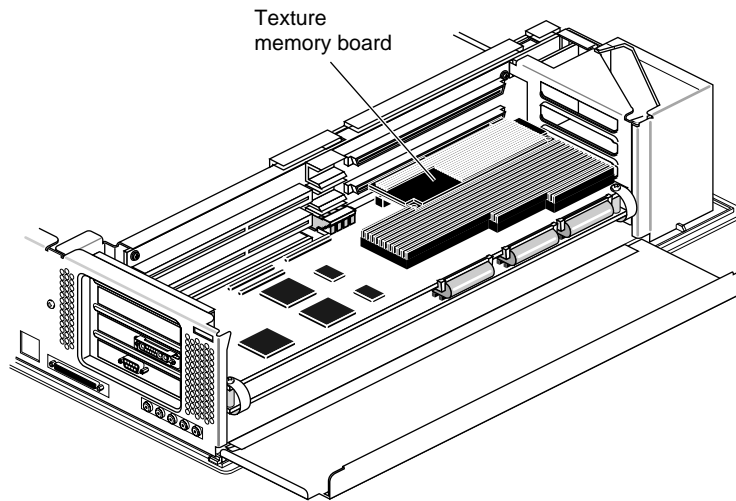

Figure 5-26 Determining the Location of the Texture Memory Option Board
1. Determine the location of the texture memory board. The texture memory board sits on the top board of the graphics board set in the right rear corner. See Figure 5-26.